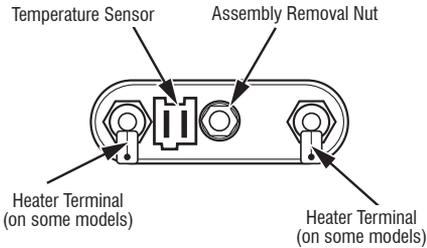

Figure 8 - Heater/Temperature Sensor Assembly
6. Disconnect the wire connectors from the heating element. See Figure 8.
6. Disconnect the wash temperature sensor connector from the heating element. See Figure 8, page 19.